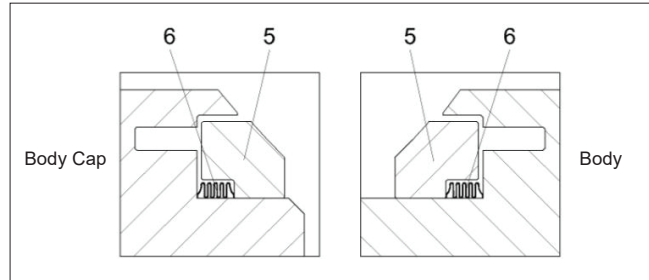

Fig. 15 E-Ring Backed Seat Assembly
- Place the valve body (1) in a standing position on its pipe flange. Use a level surface that does not scratch the flanges.
- If removed prior, coat body studs (11) with anti-galling compound and screw them into the body (1) until they bottom out in the holes.
- Lubricate the body's seat pocket and the back of the seat with anti-galling compound, then place the E-ring (6) all the way into the body counter bore and slide the seat (5) down over it. Coat the seat's spherical sealing surface with Molykote or equivalent lubricant (See Figure 15).
- Coat the thrust bearings with anti-galling compound. Assemble the shaft (3) and thrust bearings (9) with bearing chamfers towards shaft shoulder. Insert the assembly all the way into the shaft bore. The shaft bore can be reached through the flow bore on MA series coker valves or through the bottom plug hole on S7 series coker valves.
- Place the ball (4) into the body (1) and onto the installed seat (5) so that the slot faces the shaft entrance opening. Push the shaft (3) into the valve from outside. Make sure that the end of the shaft fits into the ball slot.
- Coat the rear of the remaining seat (5) with anti-galling compound and the spherical sealing surface with Molykote or equivalent lubricant, then rest it on the ball (4) so that it is centered in the flow bore. Mind the seat's orientation. (See Figure 15).
- Place the E-ring (6) around the seat (5) keeping the assembly centered on the ball (4).
- Verify that the body seal groove is free of contaminate, coat the groove with anti-galling compound, then place a new body seal (17) into the groove.
- Coat the seat and body seal grooves of the end cap (2) with anti-galling compound, then place the end cap over the body studs and pins being careful not to damage the seat (5) and springs (6) or pinch the body gasket (17). Make sure that the seat and spring stay centered atop the ball (4). **Don't leave your fingers between the body cap and the surface!**
- S7 series coker valves only:** Assemble the bottom plug (20) and plug gasket (19). Place the plug into position then fasten it to the body (1) by tightening the hex head screws (18) in a criss-cross fashion, around the plug.
- Replace the lantern ring (16), packing and live loading by referencing the details in Section 4.2 (beginning with the 5th bullet point).
- Mount the key (21) by pressing it into its groove on the shaft (3).